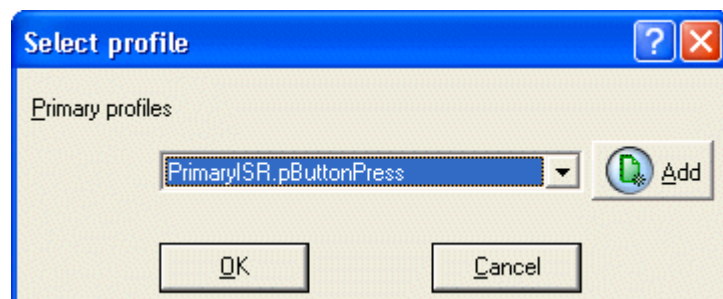

Figure 3:51 - Selecting a Primary Profile for Button1Press
- From the Primary Profiles drop down list, select **PrimaryISR.pButtonPress** and click the OK button, as shown in Figure 3:51.